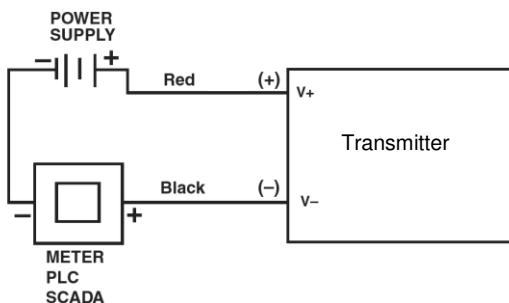
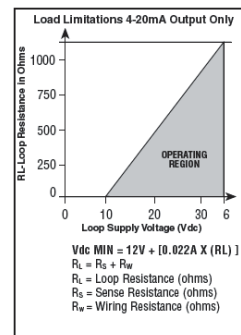

Figure 1 Two wire Loop power transmitter
Figure 2 Loop resistance calculation
- See figure 1 below of a two wire loop powered transmitter and figure 2 loop resistance calculation method for reference.
The most common problem is insufficient voltage at the transmitter due to voltage drop around the loop. Specifically, at full scale operation. The required 20 mA of current cannot be reached, if the supply voltage to the current loop is too low. The SCADA, PLC, DCS system or other receivers will not detect insufficient voltage and the measured current will be used as a normal value. That, can cause serious problems in the system operation. Alarms, valves and safety shutdown features will not function if the trip levels are not reached. It is essential to sustain minimum required voltage but it is also important not to exceed the maximum specified voltage. since that may lead to system failure or internal heating of the system. See figure 2 to calculate loop resistance and to determine that adequate voltage is supplied to the loop.